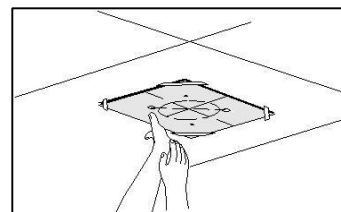

Figure 5
- Remove the upper part and trace a circle where the ducting will go and then cut out the center part of the circle on the ceiling. (Figure 5)